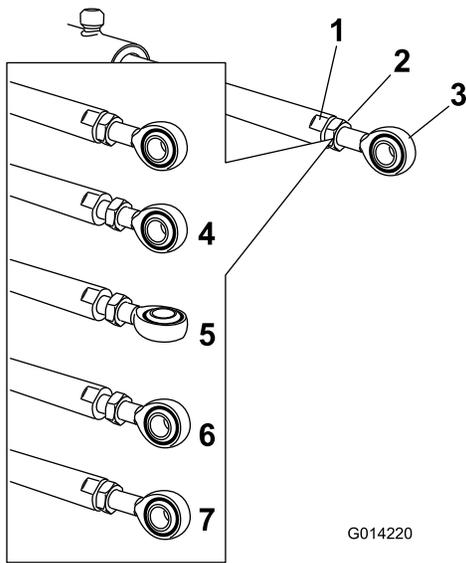

Figure 65
5. Use a wrench on the flat sides of the actuator rod to immobilize it, then loosen the jam nut to allow the eyelet rod to be adjusted (Figure 65).
- Turn the eyelet rod in the actuator rod to shorten or lengthen the extended actuator to the desired position (Figure 65).